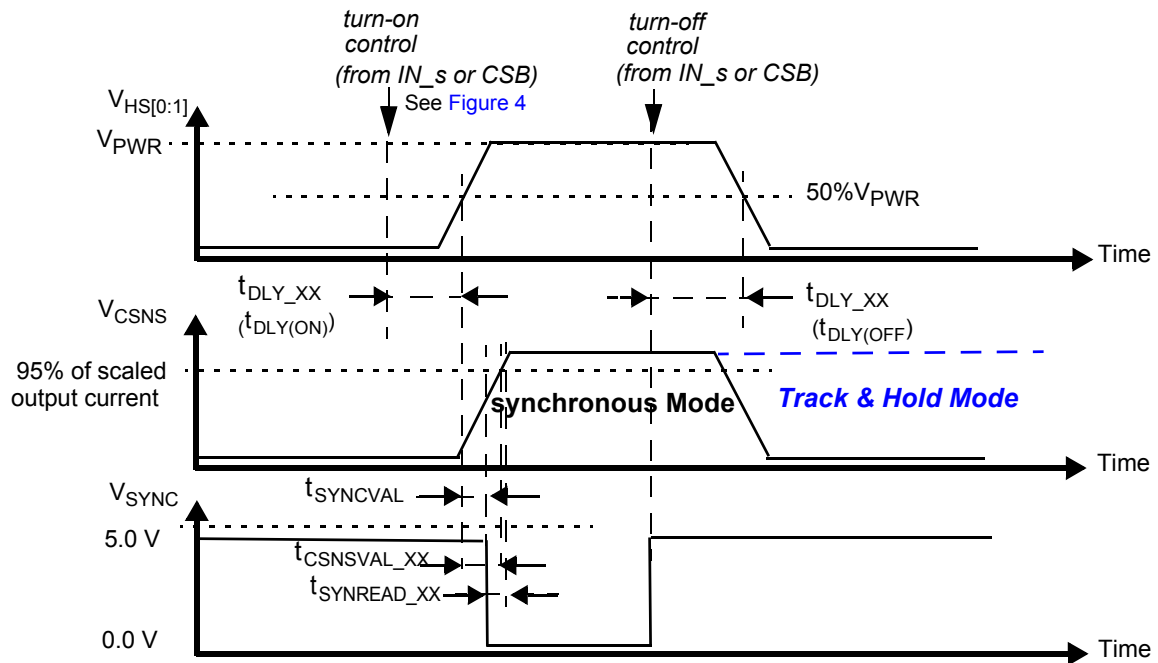

Figure 9. Synchronous & Track-and-Hold Current Sensing Modes: Associated Delay & Settling Times
29. Time required to switch off the channel after detection of overtemperature (OT), overcurrent (OC), SC or UV error (time measured between start of the negative edge on the FSB pin and the falling edge on the output voltage until $V(\text{HS}[0:1]) = 50\%$ of V_{PWR}).
30. Settling time ($= t_{CSNSVAL_XX}$), SYNC output signal delay ($= t_{SYNCVAL_XX}$) and Read-out delay ($= t_{SYNREAD_XX}$) are defined for a stepped load current using a 10 Ω resistive load for $\text{CSNS_RATIO_s} = 0$. (see Figure 9 and Output Current Monitoring \(CSNS\)).
The CS pin allows independent current monitoring of channel 0 or channel 1 up to the steady-state overcurrent threshold. It can also be used to sense the device temperature. The different functions are selected by setting bits CSNS1_en and CSNS0_en to the appropriate value (Table 22). When the CSNS pin is sensed during switch-off in the (optional) track & hold mode (see Figure 9), it outputs the scaled value of the load current as it was just before turn-Off. When several devices share the same pull-down resistor, the CSNS pins of devices the current of which is not monitored must be tri-stated. This is accomplished by setting CSNS0_en = 0 and CSNS1_en = 0 in the GCR register (Table 9). Settling time ($t_{CSNSVAL_XX}$) is defined as the time between the instant at the middle of the output voltage's rising edge ($HS[0:1] = 50\%$ of V_{PWR}), and the instant at which the voltage on the CSNS-pin has settled to $\pm 5.0\%$ of its final value. Anytime an overcurrent window is active, the CSNS pin is disabled (see Overcurrent Detection on Resistive and Inductive Loads). The current and temperature sensing functions are unavailable in Fail-safe mode and in Normal mode when operating without the V_{DD} supply voltage. In order to generate a voltage output, a pull-down resistor is required ($R(CSNS)=1.0\text{ k}\Omega$ typ. and $470 < R(CSNS) < 10\text{ k}$). When the current sense resistor connected to the CSNS pin is disconnected, the CSNS voltage is clamped to $V_{CL(CSNS)}$. The CSNS pin can source currents up to about 5.6 mA.
To synchronize current sensing with an external process, the SYNC signal can be connected to a digital input of an external MCU. SYNC is asserted logic low when the current sense signal is accurate and ready to be read. The current sense signal on the CSNS pin has the specified accuracy $t_{SYNREAD_XX}$ seconds after the falling edge on the SYNC pin (Figure 9) and remains valid until a rising edge is generated. The rising edge that is generated by the SYNC pin at the turn-OFF instant (internal or external) may also be used to implement synchronization with the external MCU. Parameter t_{SYNVAL_XX} is defined as the time between the instant at the middle of the output-voltage rising edge ($HS[0:1] = 50\%$ of $VPWR$), and the instant at which the voltage on the SYNC-pin drops below 0.4 V (V_{SOL}). The SYNC pins of different devices can be connected together to save μ -controller input channels. However, in this configuration, the CSNS function of only one device should be active at a time. Otherwise, the MCU does not determine the origin of the SYNC signal. The SYNC pin is open drain and requires an external pull-up resistor to VDD.